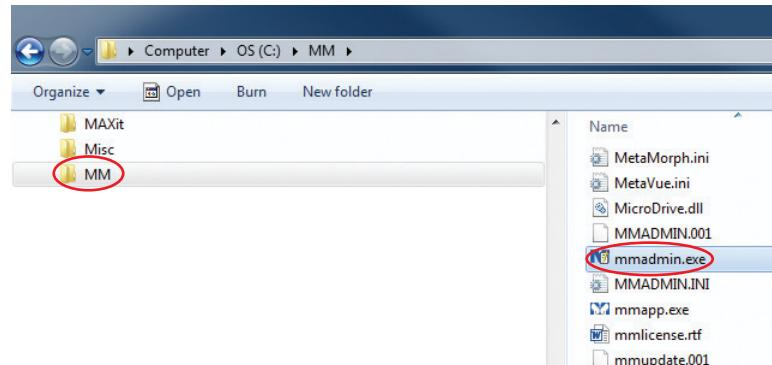

Figure VI-7. Run the .exe File
2. Start the Meta Imaging Series Administrator by double-clicking the **mmadmin.exe** file, shown in Figure VI-7: